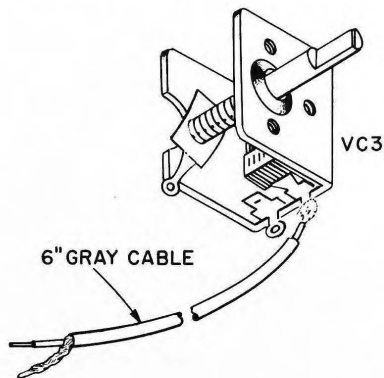
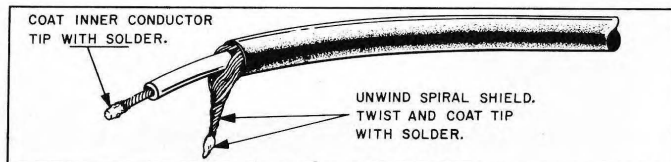

FIGURE 4.
FIGURE 5.
- VC-3 variable capacitor and 6" gray cable. See Figures 4 and 5. Prepare each end of the cable as shown in Figure 5. Solder one end of the cable to terminal shown on VC-3. Cut off the shield wire on this end.
2. 6½" gray shielded cable. Prepare both ends as you did with the other cable (See Figure 5). Insert the shield wire down through hole 62 and the inner conductor down through hole 63. Solder both on the foil side.
RF PC Board. Position it as shown. Before you mount it, attach the following wires: Prepare shielded cables as shown in Figure 5.